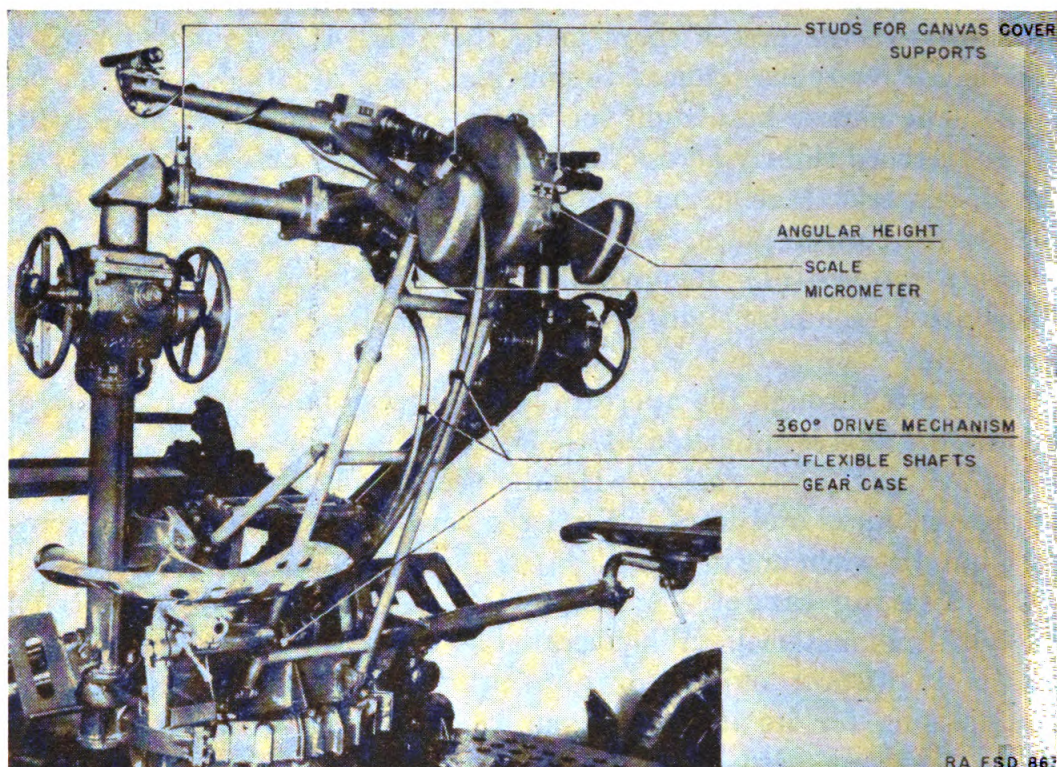

FIGURE 89.—Sighting system M2 with telescopes M7.
*b. Operation.*—(1) Remove the back plate and the lock frame. Place the breech bore sight in the breech opening. Attach the muzzle bore sight.
(2) Look through the aperture in the breech bore sight; the direction of the axis is indicated by the cord intersection.
**96. System, sighting, M2, and telescope M7.**—One sighting system M2, (figs. 89 and 90) mounting two telescopes M7, is provided on each 37-mm automatic gun carriage M3, and is the means by which the gun is aimed in direction and elevation. The necessary settings of lateral and vertical deflection are introduced by means of the flexible shafts from the control equipment set through couplings in the carriage chassis.
*a. Description of sighting system.*—(1) The rear portion of the system is supported by a framework attached to the carriage and the forward portion rests on the elevating and traversing handwheel brackets.